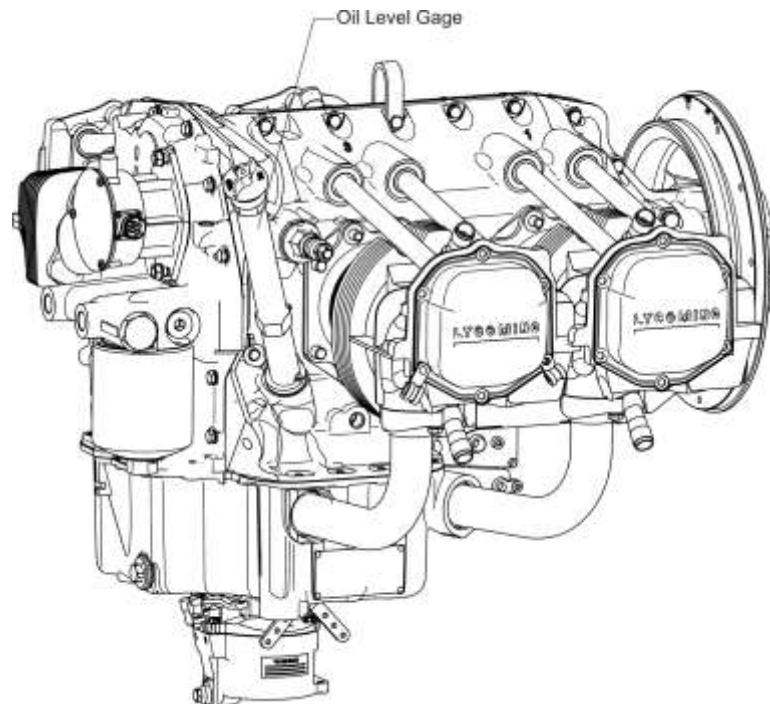

Figure 1
- (1) Make sure the engine is warm or cool to touch.
- (2) Pull out the oil level gauge dipstick rod (Figure 1).